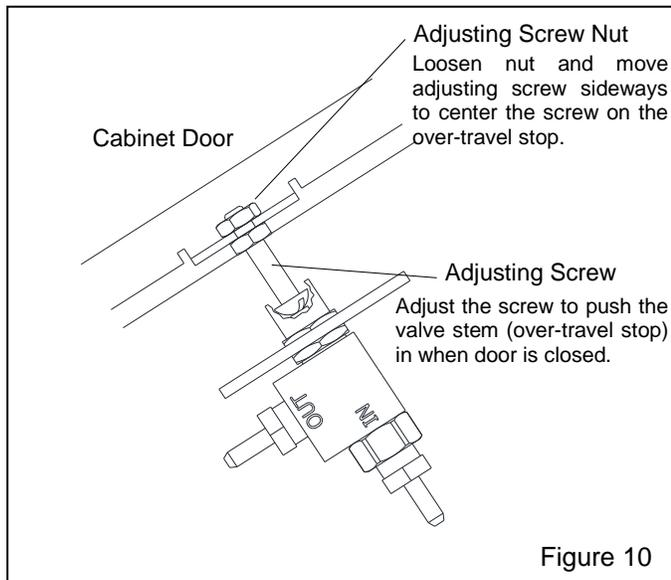

Figure 10
**4.5 Door Interlocks – Figure 10**